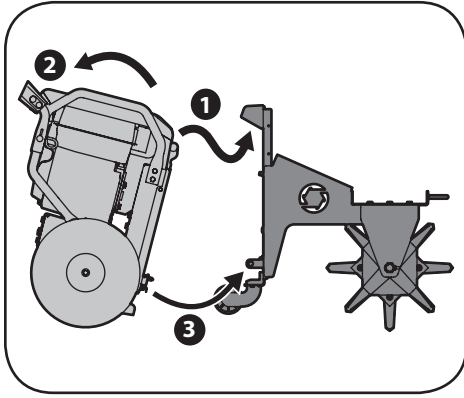

Figure 4-3
2. Roll the FLEX™ Power Base forward and tip it up, engaging the top part of the aerator attachment with the handle mount provided on the FLEX™ Power Base (1 of Figure 4-3).
3. Tip the FLEX™ Power Base backwards to engage the two bottom connection points (2 and 3 of Figure 4-3).